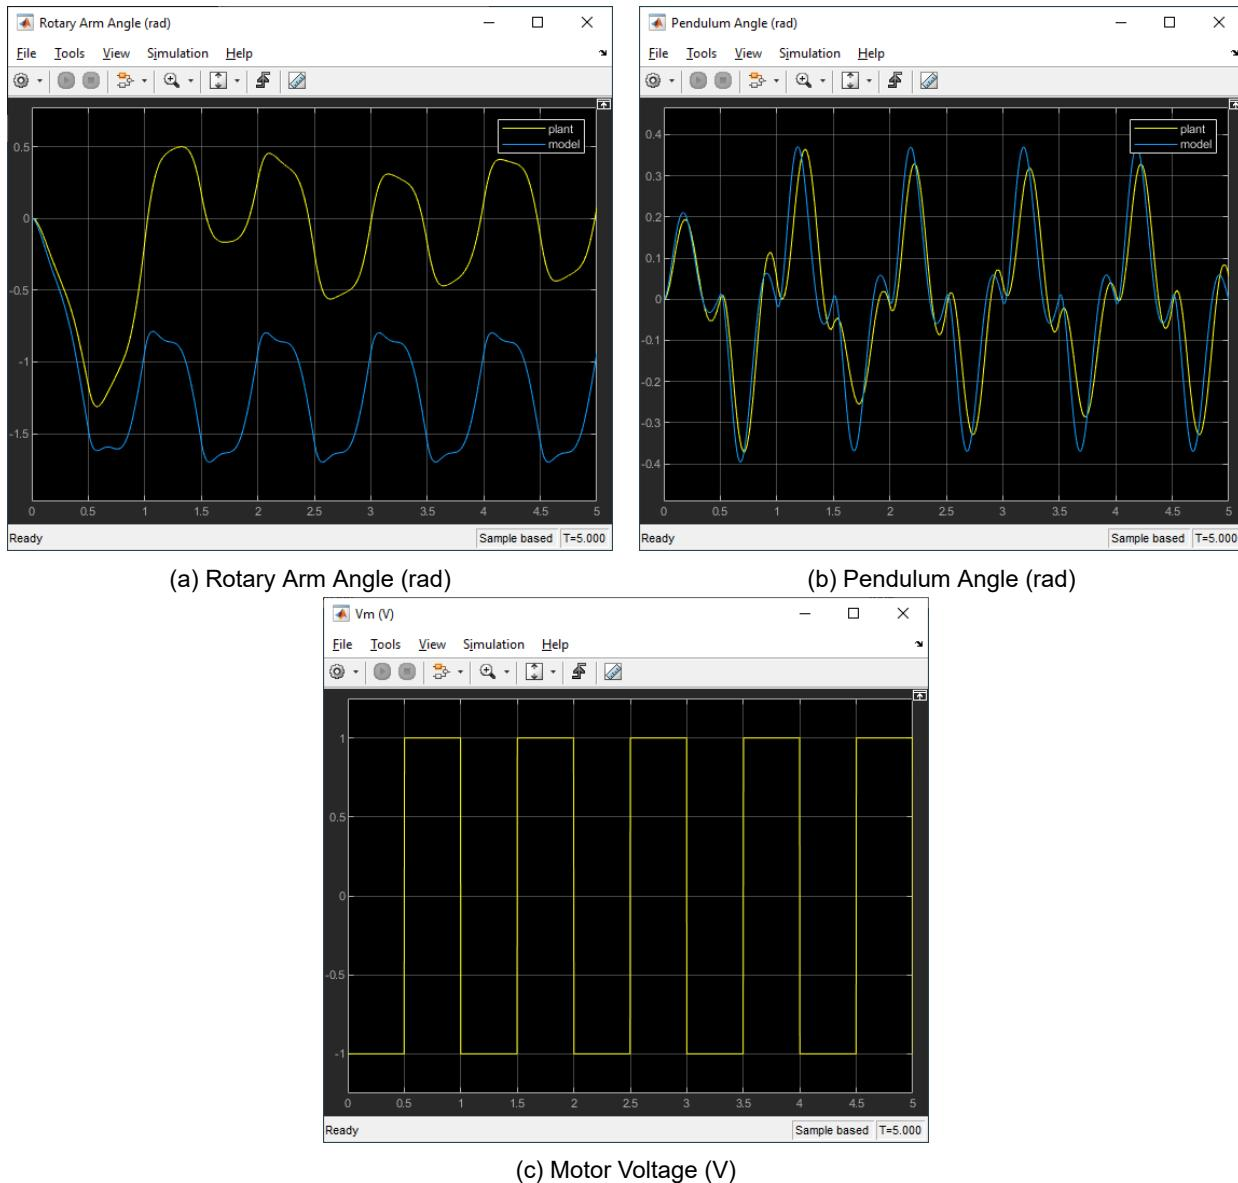

Figure 2.2: Step response of the rotary pendulum system
5. **B-5, K-2** The scope response should be similar to Figure 2.2. Attach the rotary pendulum response - showing both the measured and simulated (model based) rotary arm and pendulum angles.